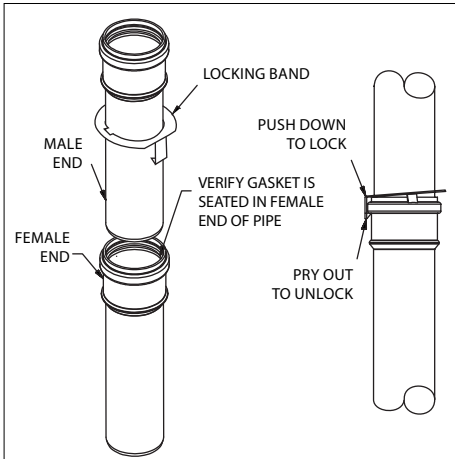

Figure 2
PolyPro to PolyPro (Fig.2)
- **IMPORTANT: Locking bands are mandatory on all exhaust vent joints on pipe sizes from 2" up to 4" (Fig.2)**
- **For 5"-8" diameter, Locking Bands are not required but strongly recommended at every exhaust vent joint (Fig.2)**
- **Locking bands are optional for air inlet vent joints. (Fig.2)**